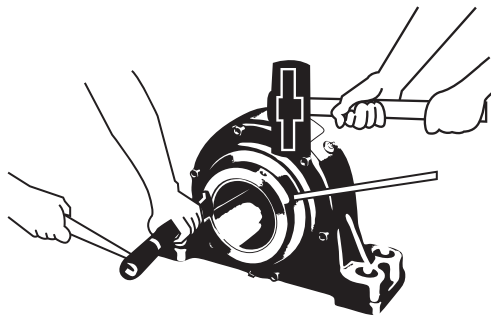

Figure 4 -
3. Tighten (turn clockwise) nut at open end of housing. Use sledge and brass bar as in Figure 4 to break the cones loose on the adapter, thus allowing the adapter to loosen on shaft.